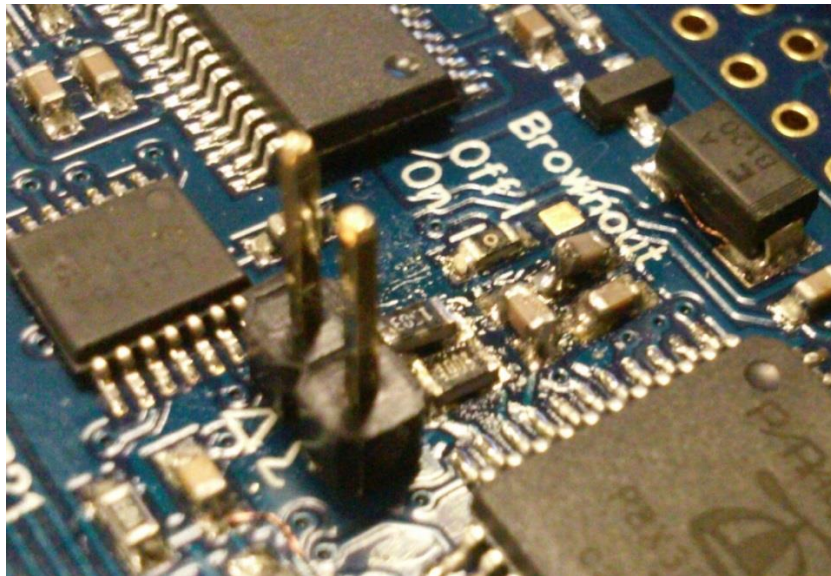

Fig. 5: Soldered Resistors, Capacitors, and 2-Pin Header
4. Solder resistors R14 and R15, capacitors C16 and C17, as well as a 2-Pin Header to their corresponding locations as seen in **Fig. 5**. (R14 = 100k Ω ; R15 = 150k Ω ; C16 = 1nF; C17 = 1nF)